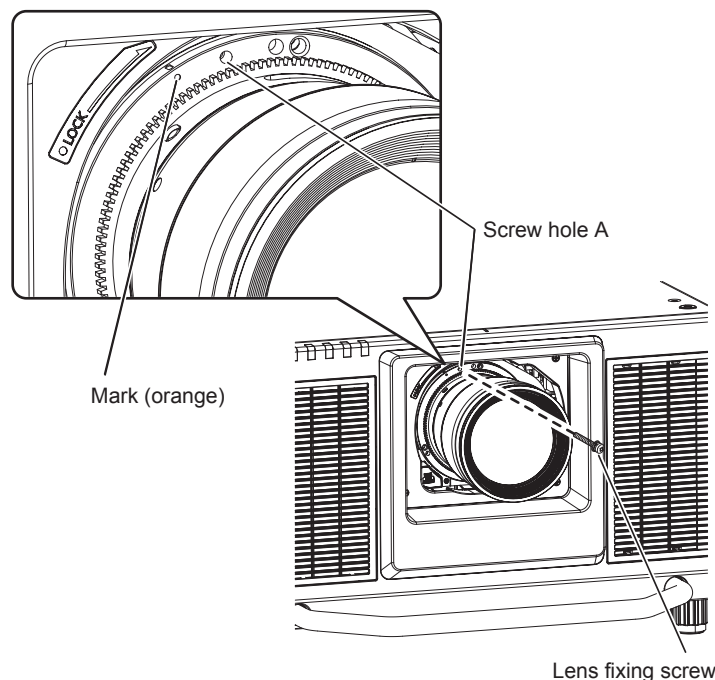

Fig. 4
**4) Secure the projection lens with the supplied lens fixing screw. (Fig. 4)**